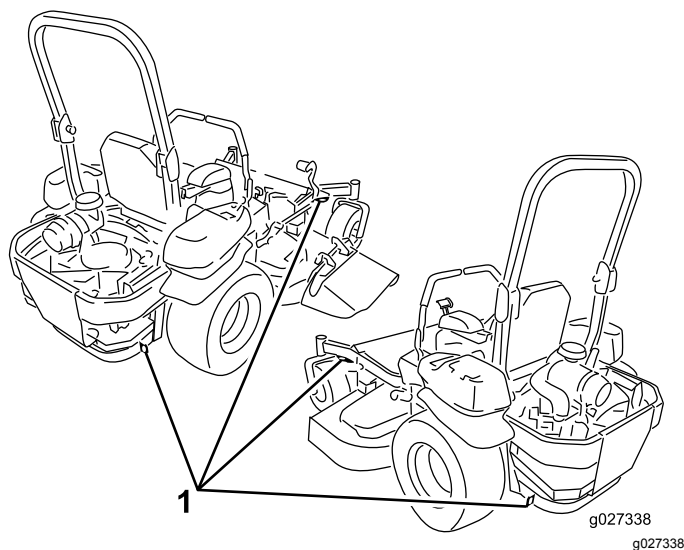

Figure 38
6. Tie down the machine near the front caster wheels and the rear bumper with straps, chains, cable, or ropes (Figure 38). Refer to local regulations for tie-down requirements.